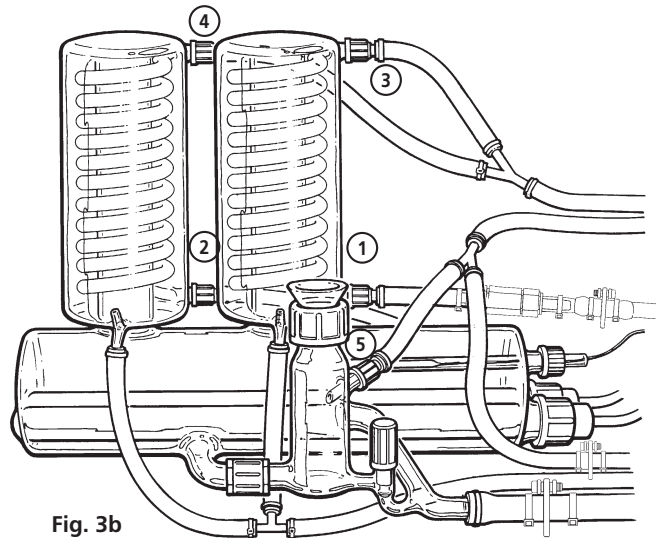

Fig. 3b
Connect number 4 to the upper water outlet of the condenser (Fig. 3b).
Connect number 3 to the upper water outlet of the condenser (Fig. 3b).
20. Connect the tubing connector number 5 to the boiler level control (Fig 3b).